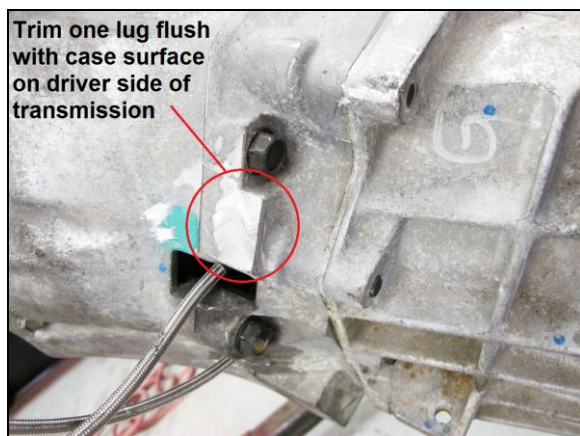

Figure 6
3. Trim manufacturing index lugs on the transmission case flush with the case surface as indicated in Figures 6 & 7.